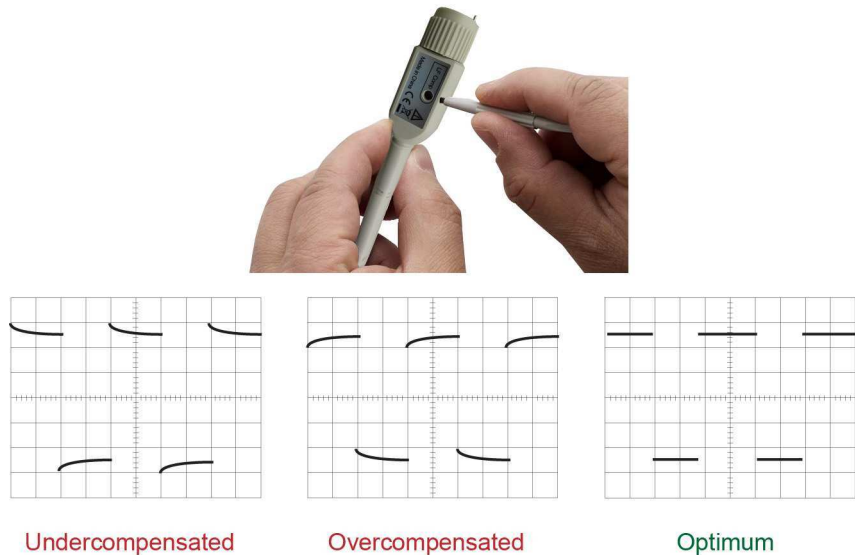

Figure 13 Proper Low-Frequency Compensation Adjustment
- 6 Use the supplied trimmer tool to adjust the **LF Comp** to an optimum square wave response as shown in **Figure 13**.